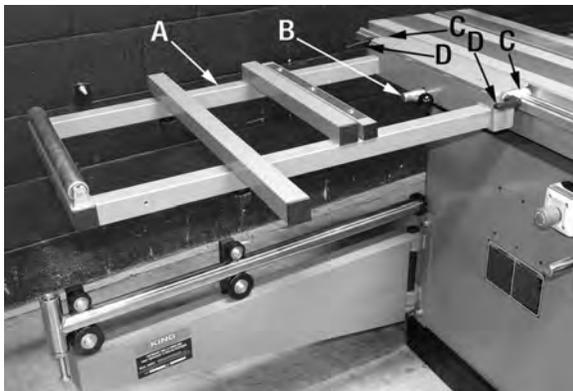

FIGURE 34B
1. Slide the outrigger table (A) Fig.34B onto the round bar on the left side of the sliding table and place the outrigger table near the rear as shown. Secure the outrigger table by tightening the lock handle (B) under the outrigger table.
2. Install outrigger table hooks (C) Fig.34B on both sides of the outrigger table, position them as shown and lock them in place with the lock handles (D).